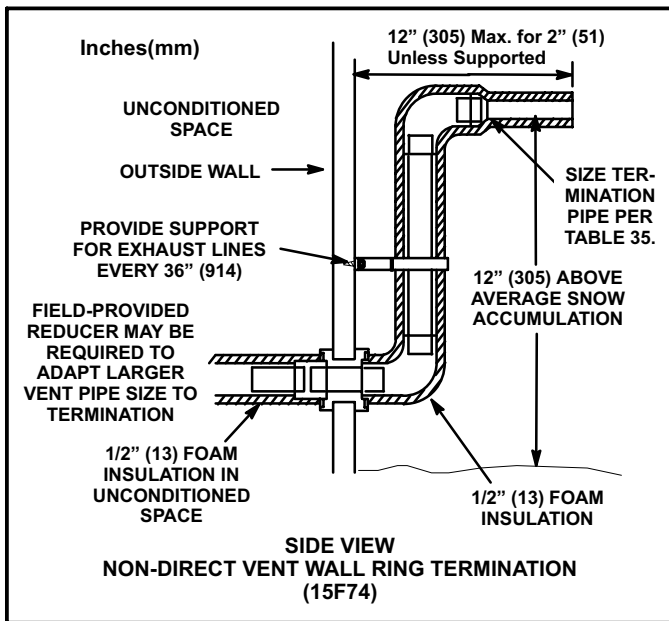

FIGURE 39
3. If exhaust piping must be run up a side wall to position above snow accumulation or other obstructions, piping must be supported every 3 feet (.9 m) as shown in figure 20. Refer to figure 39 for proper piping method. When exhaust piping must be run up an outside wall, any reduction in exhaust pipe size must be done after the final elbow.